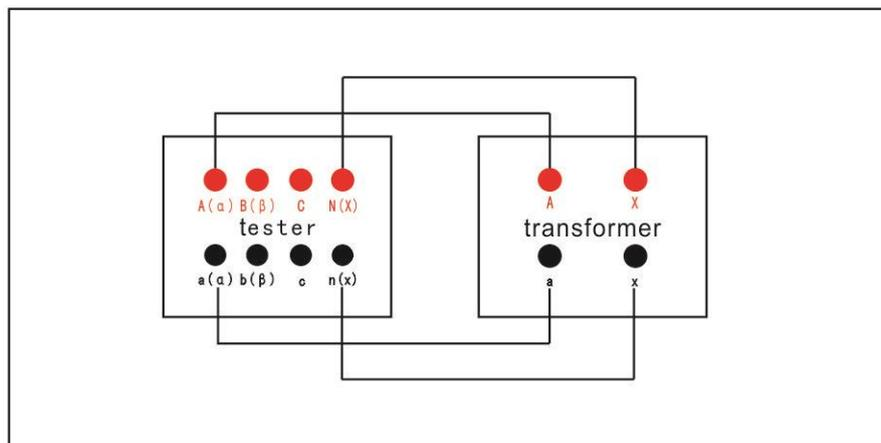

Figure 2
- Single-phase transformer is connected according to Figure 2.